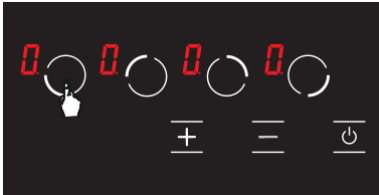

Figure 15
2. Press the front left hob selection key () again. (See Fig. 15)